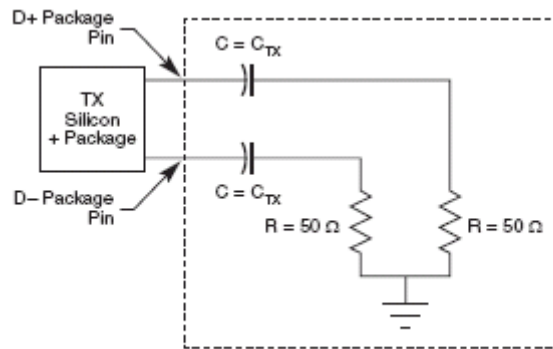

Figure 51. Compliance Test/Measurement Load
1. Specified at the measurement point into a timing and voltage compliance test load as shown in Figure 51 and measured over any 250 consecutive TX UIs.
2. Specified at the measurement point into a timing and voltage compliance test load as shown in Figure 51 and measured over any 250 consecutive TX UIs.
- Specified at the measurement point and measured over any 250 consecutive UIs. The test load in Figure 51 should be used as the RX device when taking measurements. If the clocks to the RX and TX are not derived from the same reference clock, the TX UI recovered from 3500 consecutive UI must be used as a reference for the eye diagram.
2. Specified at the measurement point and measured over any 250 consecutive UIs. The test load in Figure 51 should be used as the RX device when taking measurements. If the clocks to the RX and TX are not derived from the same reference clock, the TX UI recovered from 3500 consecutive UI must be used as a reference for the eye diagram.
The AC timing and voltage parameters must be verified at the measurement point, as specified within 0.2 inches of the package pins, into a test/measurement load shown in Figure 51.